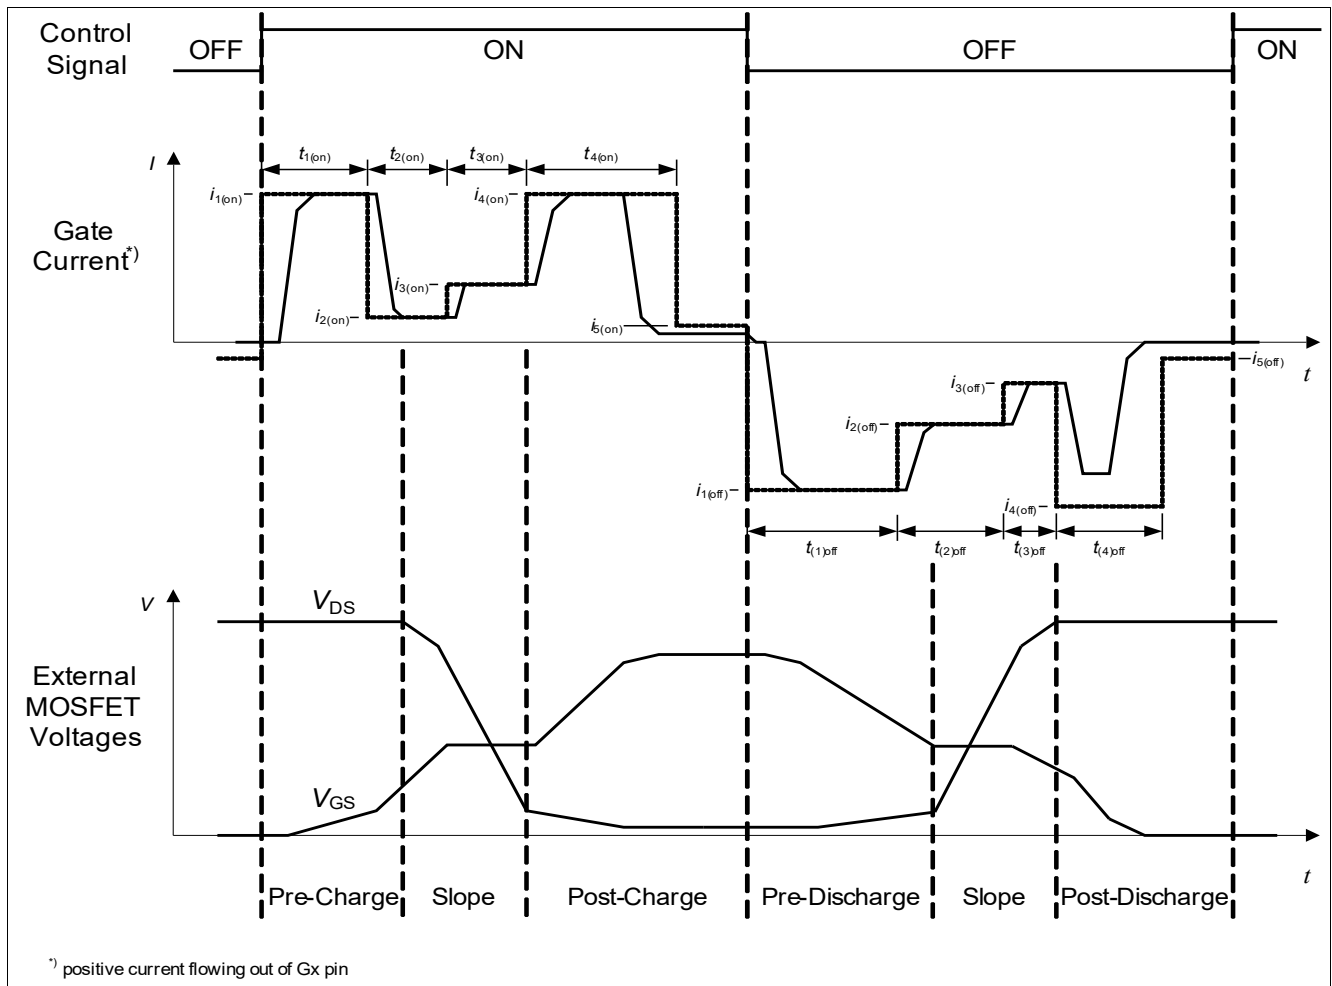

Figure 36 Gate current set point values generated by the sequencer
- In sequencer mode an advanced gate current profile is defined by SFRs where the gate charging phase and the gate discharging phase each are split into consecutive sub phases with individual current set point values and duration values (see **Figure 36**):